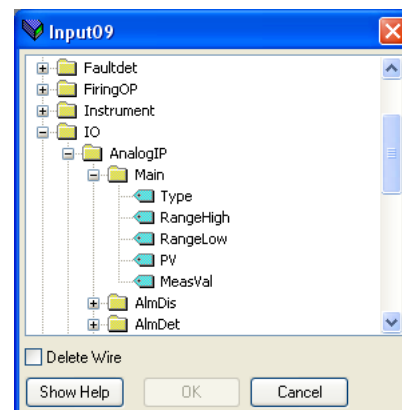

Figure 8.120 Browser window
1. Double click the next available position in the input or output data table and select the variable to assign to it. A pop-up (figure 8.120) provides a browser from which a list of parameters can be opened.